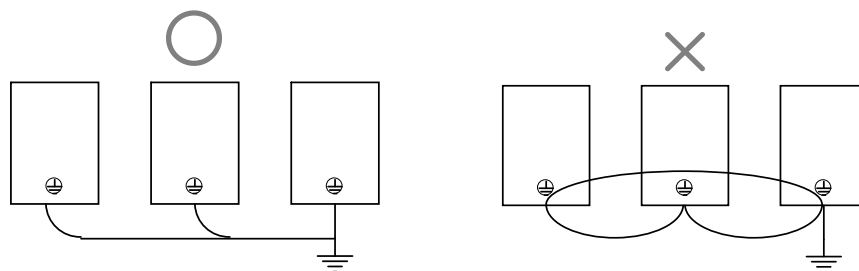

Figure 4-7 Grounding method of multiple inverters
- When several inverters are grounded, it is recommended not to form a loop in order to avoid the formation of a circuit. See Figure 4-7 for the grounding method of multiple inverters.